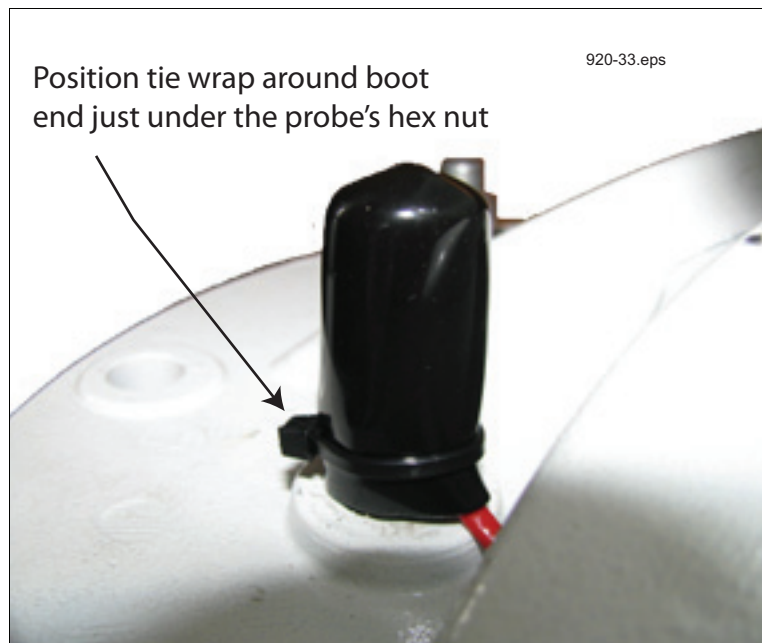

Figure 21. Positioning the tie wrap over the probe cable's protective boot
6. Slide the boot over the bend of the cable and push it down over the probe's hex nut until it rests on the top of the CCVP. Get a tie wrap from the kit and position it around the end of the boot just under the probe's hex nut and tighten it (see Figure 21).